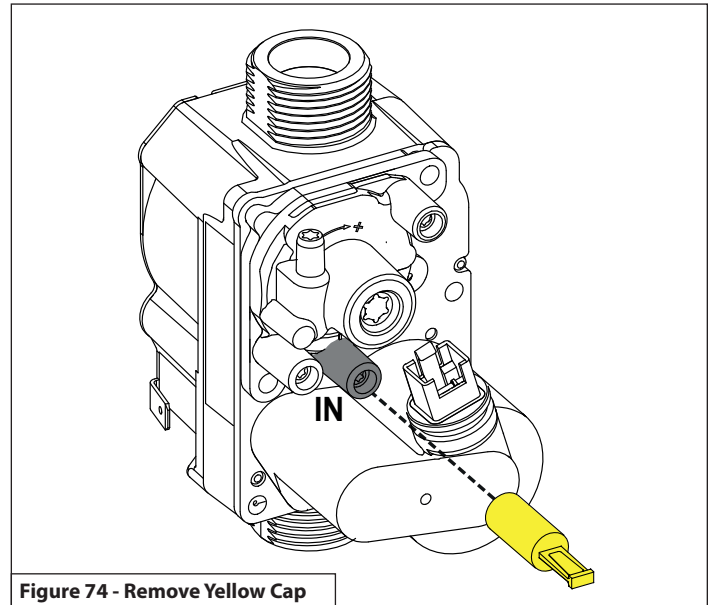

Figure 74 - Remove Yellow Cap
NOTE: Refer to Figure 74 when checking gas pressure. Loosen the bolts before checking the gas inlet pressure.
1. Remove yellow cap from line pressure test point. See Figure 74.